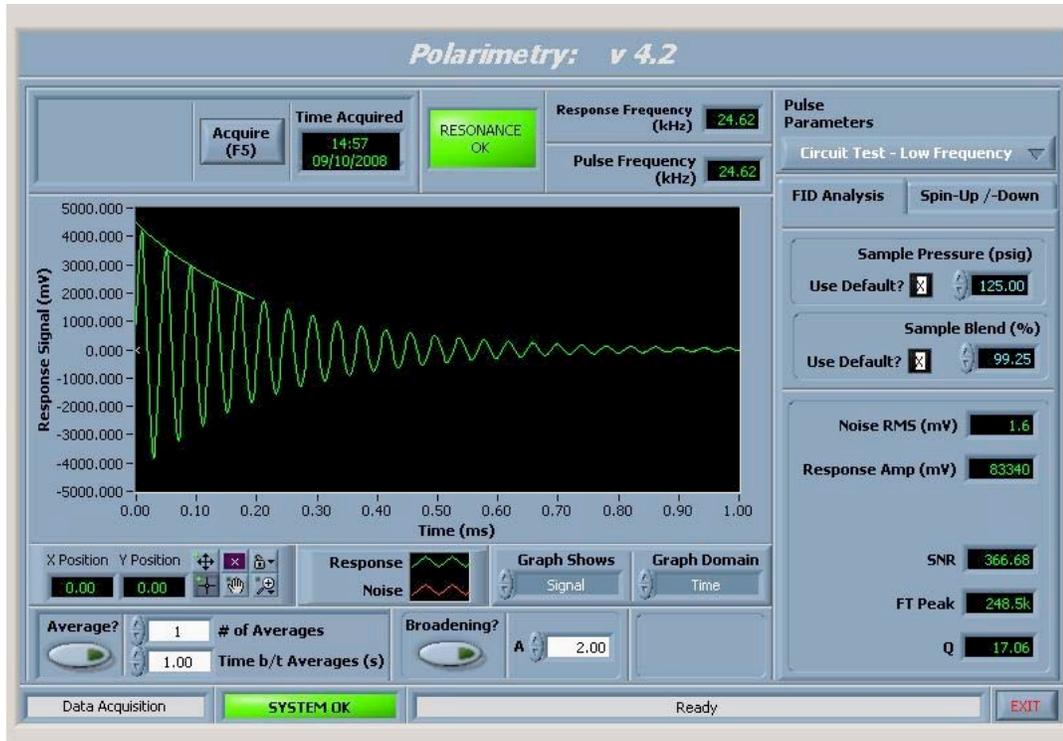

Figure 6: Correct Result of Circuit Test – Low Frequency
4. Set the Graph Domain to “Time” and manually adjust the graph parameters so that the X-axis goes from 0 to 1 second and the Y-axis goes from -5000 to +5000 units. To adjust the axes, double-click the number on each end of each axis and type in the desired value. The resulting display should resemble that shown in **Figure 6**.
5. The starting amplitude and frequency of the signal may differ slightly from that shown in **Figure 6**, but the graph should be that of a regular sine wave that decreases in amplitude with time (known as ring-down). In addition, the resonance indicator should show “Resonance OK” (green). If the display appears flat, noisy or different from what is expected, or if the resonance indicator shows “Off Resonance”, the system indicates a problem. Please contact a Polarean service representative for further information.